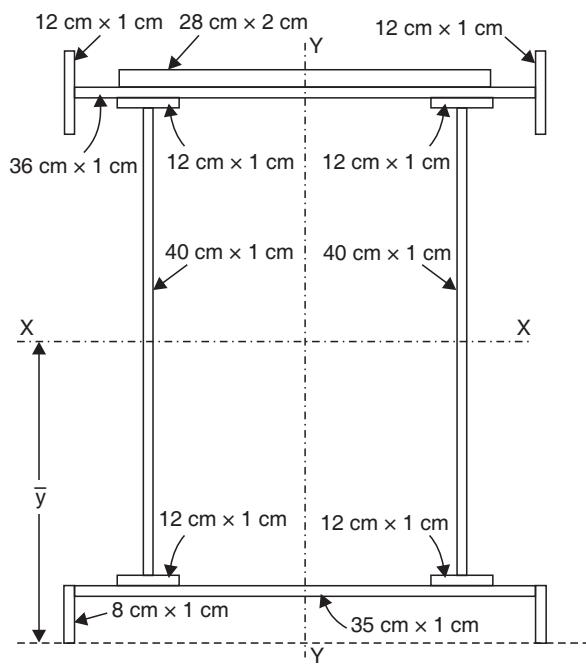

Fig. 8.40
12. Calculate the moment of inertia of the built up section shown in Fig. 8.40 about the centroidal axis  $XX$ .